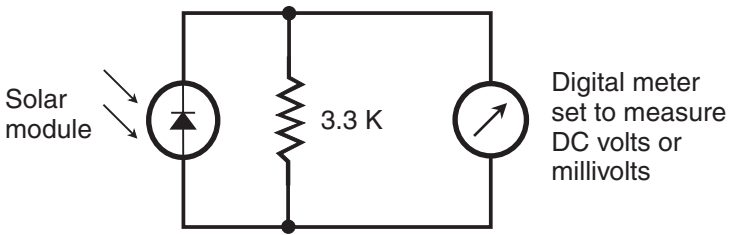

Figure DC25-1 Schematic diagram of a voltage-based PV illuminometer.
I tried to build a current-based PV illuminometer using a resistor rated at 3.3 K in series with a solar module rated at 6 volts (V) and my digital meter set to measure DC microamperes. The resulting device wasn't sensitive enough to be of use in most situations. Then I assembled a voltage-based PV illuminometer using the same resistor in parallel with the solar module and my digital meter set to measure DC millivolts or volts. This scheme, shown schematically in Fig. DC25-1, proved useful in all kinds of everyday environments, ranging from the dim light